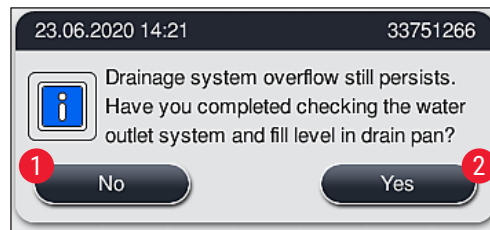

Fig. 124
2. After 5 minutes and after further cleaning attempts were carried out but the blockage still persists, a message (→ "Fig. 124") on the display shows the user that the water level is still too high. By pressing **No** (→ "Fig. 124-1"), the user can extend the waiting time by another 5 minutes to carry out further cleaning attempts. If the further cleaning attempts in this second interval are successful, the situation is solved as described under 1. If additional time is required for the cleaning measures, press again **No** (→ "Fig. 124-1"). The interval can be repeated multiple times. If the blockage could not be released despite all cleaning attempts, press **Yes** (→ "Fig. 124-2") to start a controlled abortion process, see the following sections 3 and 4.